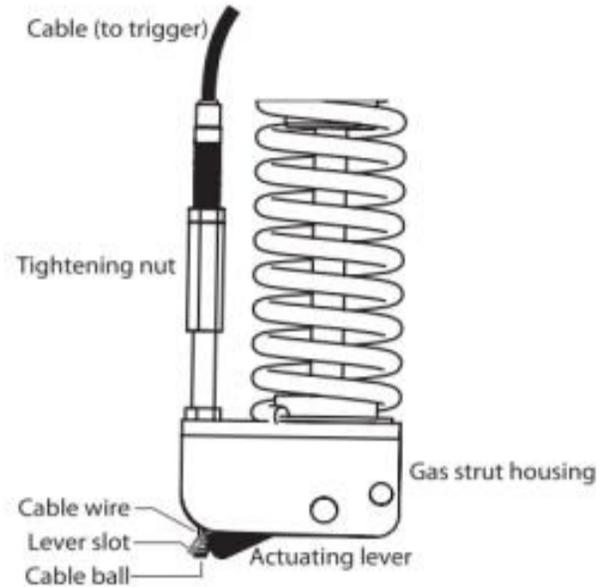

Figure 15.44: Cable Assembly
1. If the chair does not tilt when trigger is pulled – the cable wire is too loose and needs to be tightened. To do so, remove the rubber sleeve above the gas strut housing that covers the adjustment nuts. Loosen the locknut first and turn the 'tightening nut' (shown in **Figure 15.44**) so that more thread is showing above the nut. Check tilt function and if acceptable tighten locknut and refit rubber sleeve.